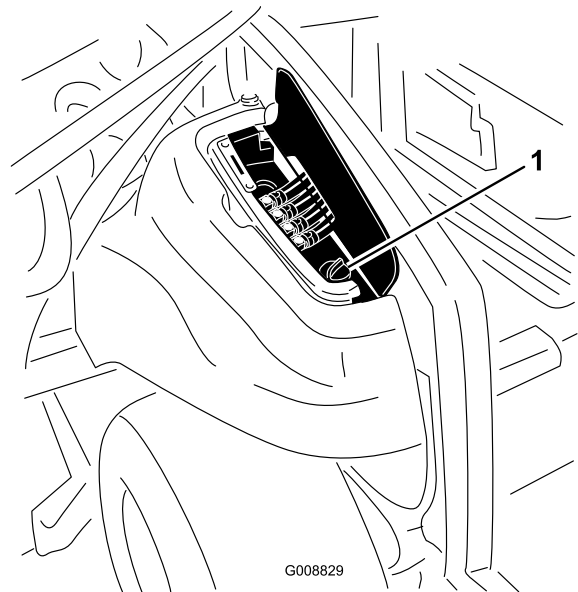

Figure 88
2. On the right side of the machine, raise the access cover to expose the hydraulic tank cap (Figure 88).
3. Clean the area around the filler neck and cap of the hydraulic tank (Figure 88). Remove the cap from the filler neck.